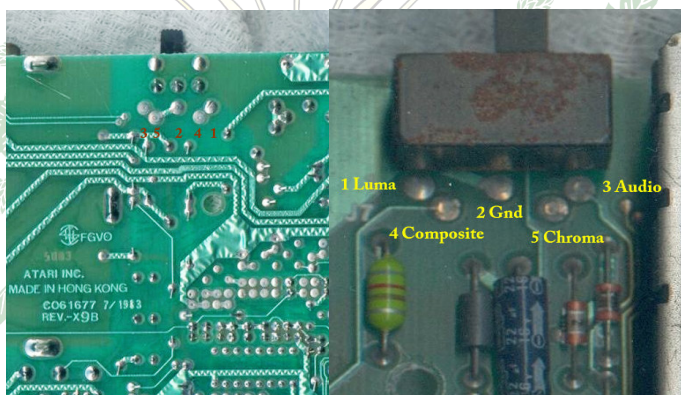

Figure 4: Solder points on 600XL M/B
- a. Remove solder from points in Figure 4: Solder points on 600XL M/B